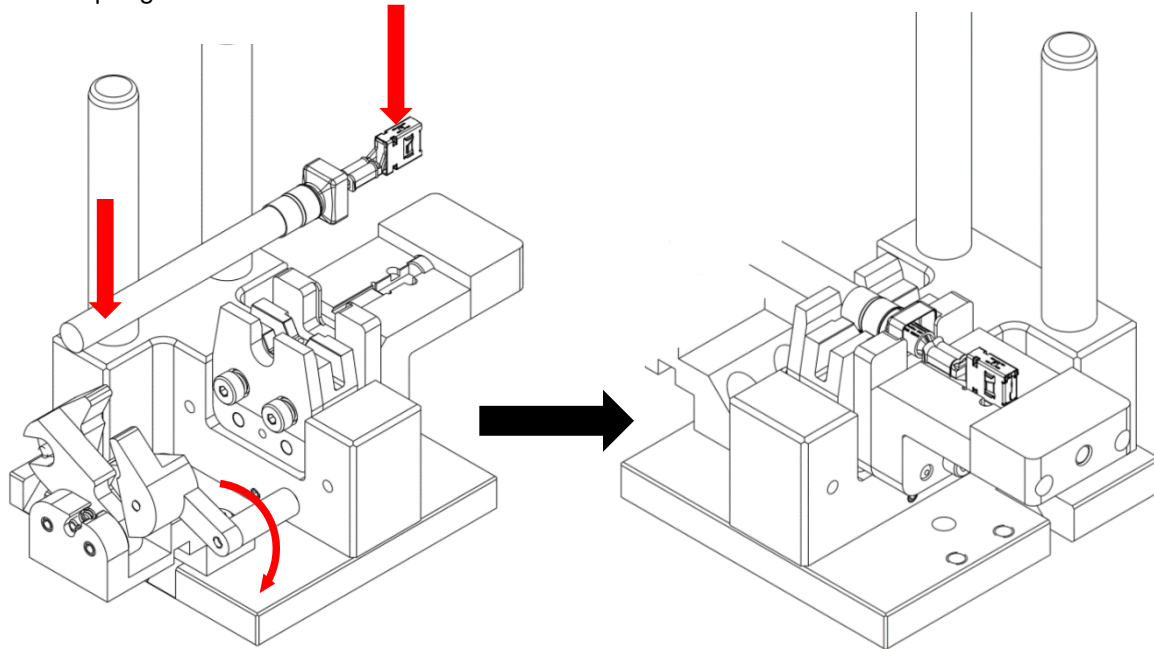
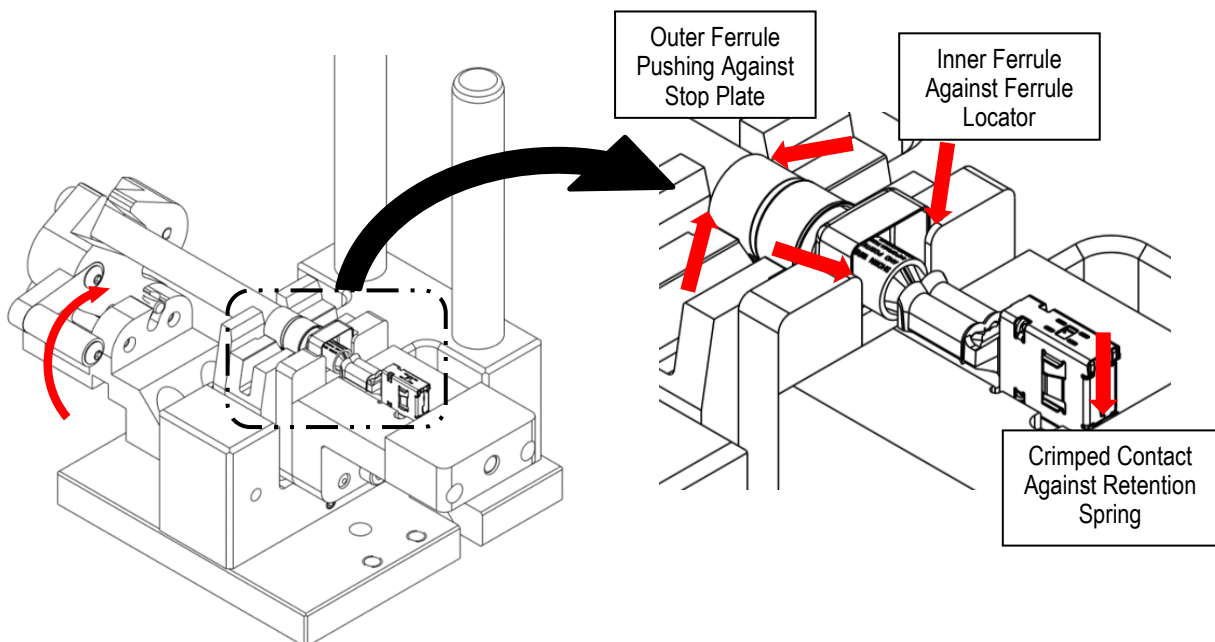

Figure 3
Figure 4
2. Open the wire clamp by pressing down on the lever (Figure 3). Position the prepared assembly into the crimping die to accomplish the following (see Figure 4):